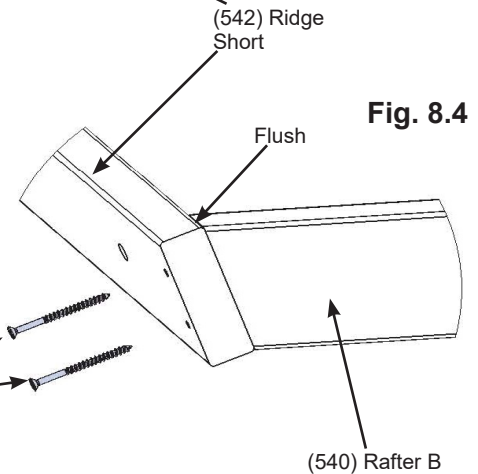

Fig. 8.4
E: Tight to (541) Ridge Long attach one (542) Ridge Short with six #8 x 2-1/2" Wood Screws. (fig. 8.4 and 8.5)